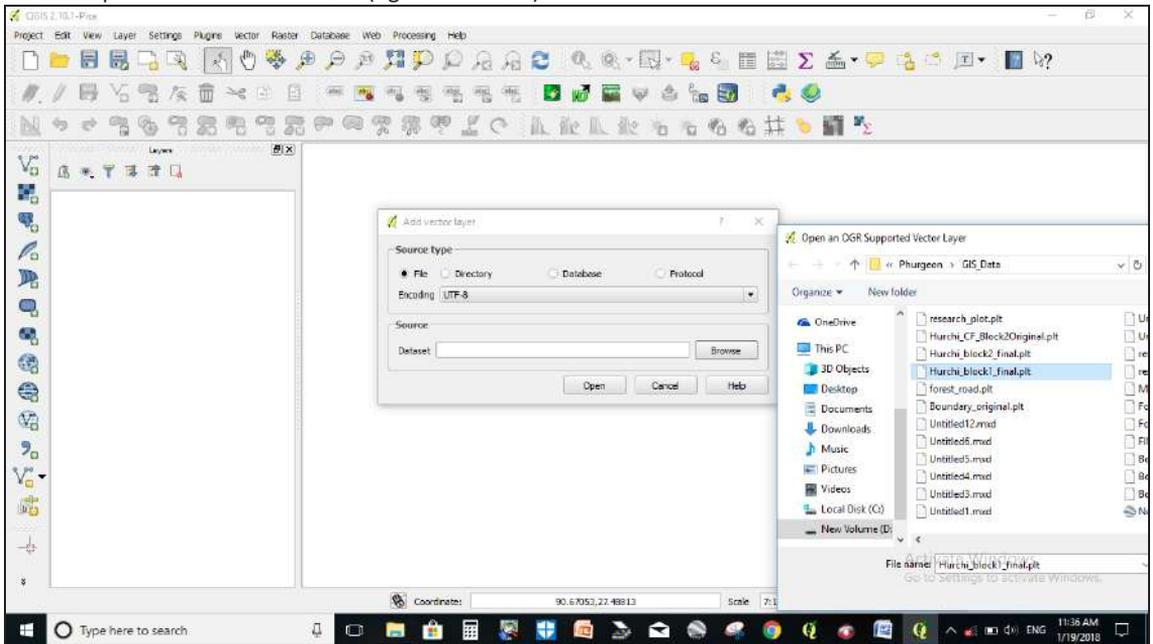

Figure 4a
a. Upload field data from GPS (figure 4a below)